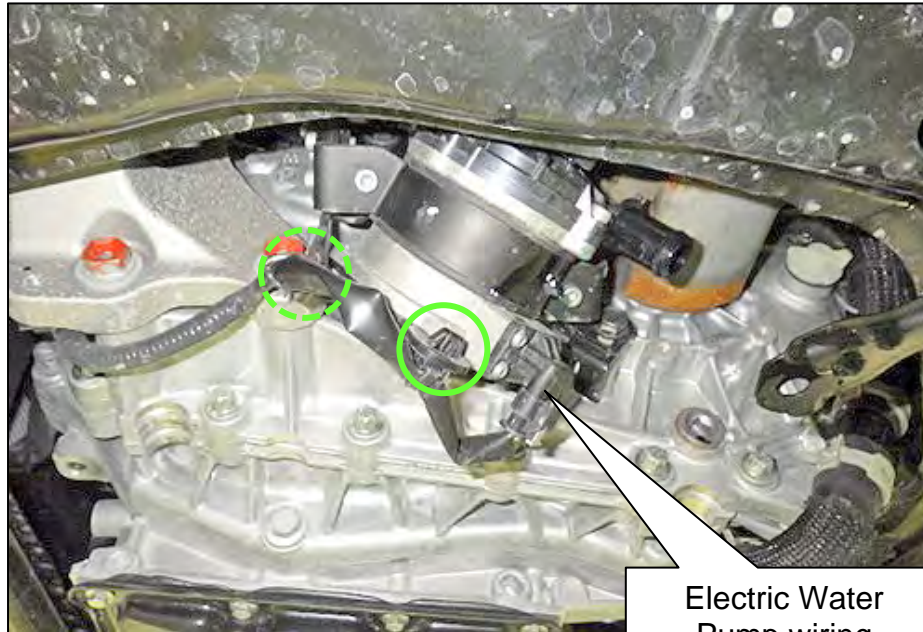

Figure 60
80. Detach two (2) wiring harness clips where shown in Figure 60.